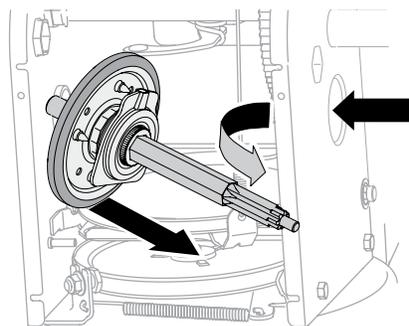

Figure 4-17
- Carefully position hex shaft downward and to left before carefully sliding friction wheel assembly off shaft. See Figure 4-17.